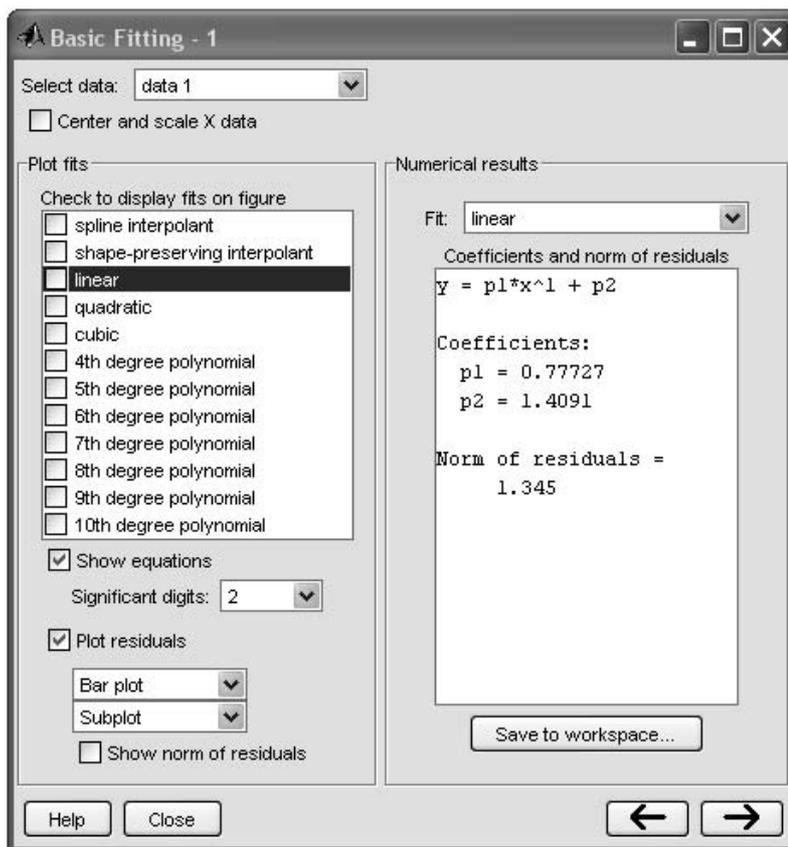

Figure 6.3–1 The Basic Fitting interface.
Two panes of the Basic Fitting interface are shown in Figure 6.3–1. To reproduce this state:
- **Plot residuals.** If checked, the residuals are displayed. You can display the residuals as a bar plot, a scatter plot, a line plot using either the same figure window as the data or using a separate figure window. If you plot multiple data sets as a subplot, then residuals can be plotted only in a separate figure window. See Figure 6.3–2.